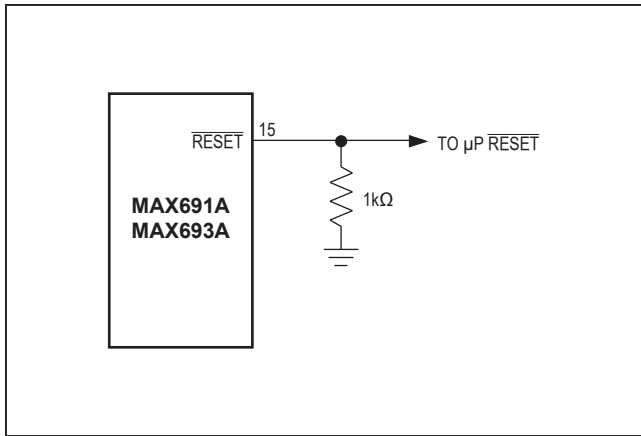

Figure 1. Adding an external pull-down resistor ensures  $\overline{\text{RESET}}$  is valid with  $V_{CC}$  down to GND.
sinks 3.2mA with a saturation voltage of 0.1V. When no backup battery is used,  $\overline{\text{RESET}}$  output is guaranteed to be valid down to VCC = 1V, and an external 10kΩ pulldown resistor on RESET insures that it will be valid with VCC down to GND (Figure 1). As VCC goes below 1V, the gate drive to the  $\overline{\text{RESET}}$  output switch reduces accordingly, increasing the RDS(ON) and the saturation voltage. The 10kΩ pulldown resistor insures the parallel combination of switch plus resistor is around 10kΩ and the output saturation voltage is below 0.4V while sinking 40µA. When using a 10kΩ external pulldown resistor, the high state for  $\overline{\text{RESET}}$  output with VCC = 4.75V will be 4.5V typical.